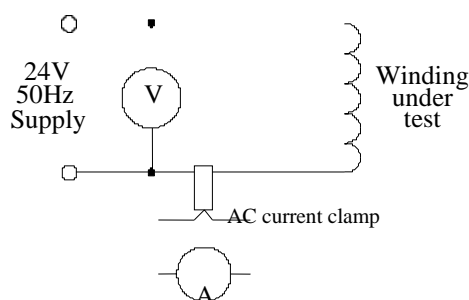

Figure 1
- Connect the main winding to the single phase supply as shown in figure 1.